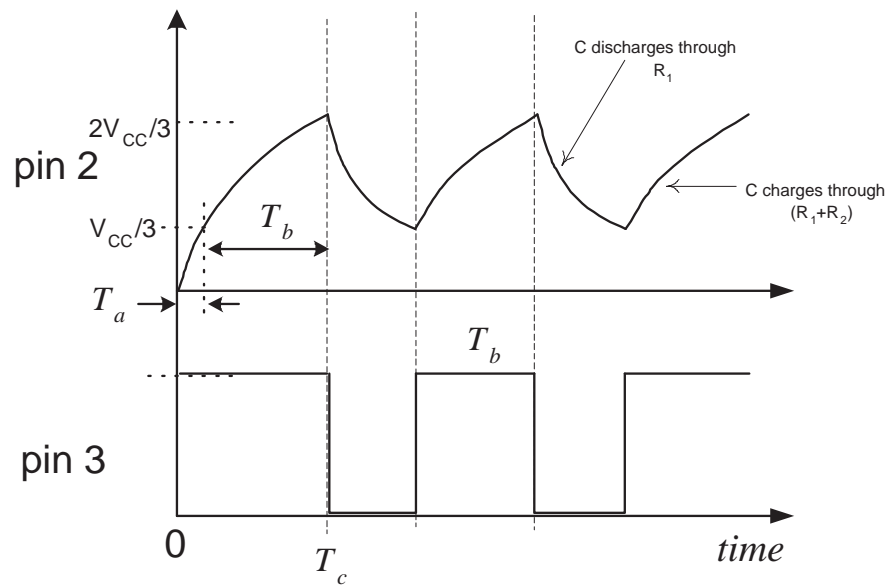

Figure 7: Timing waveforms during charging and discharging.
- (4.1) (a) Description of operation can be obtained from many texts. The waveforms at pin 2 and pin 3 are shown in Fig. 7.
where  $E$  is the charging voltage,  $R$  is the series resistance and  $t$  is time. In the 555-astable circuit, when pin 3 is high, the capacitor is charging from  $V_{CC}/3$  to  $2V_{CC}/3$  through the effective resistance ( $R_1 + R_2$ ) connected to a charging source  $E = V_{CC}$ . In Fig. 7, the repetitive charging time is  $T_b$ , where